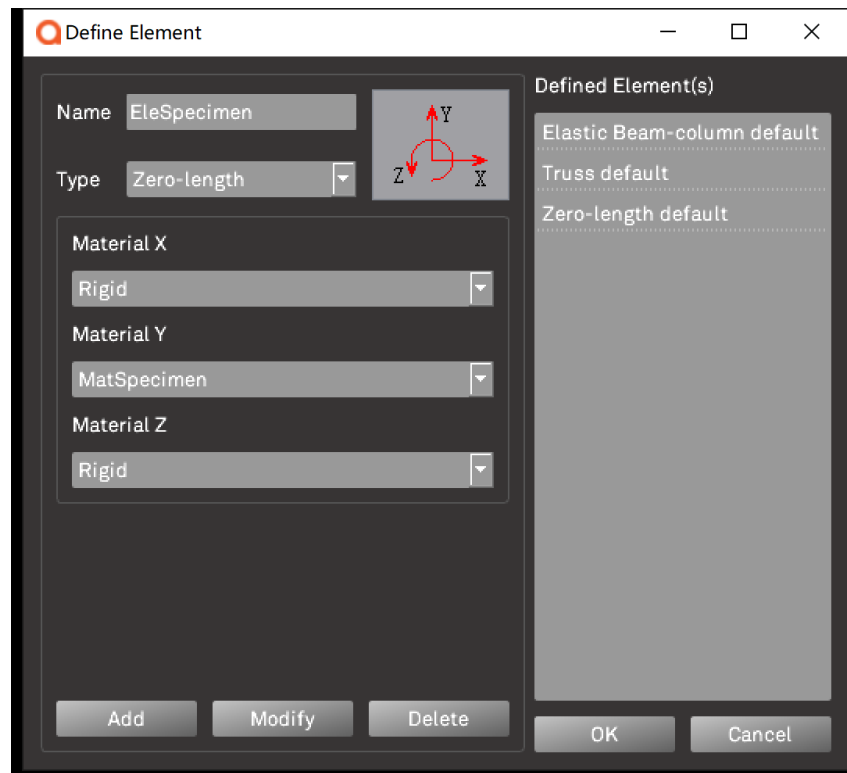

Figure 33 – Define Experiment Element window
Step 2: Click “Define” - Click “Element” - Define element type with Experiment material (as shown in Figure 33) – Click “Add”